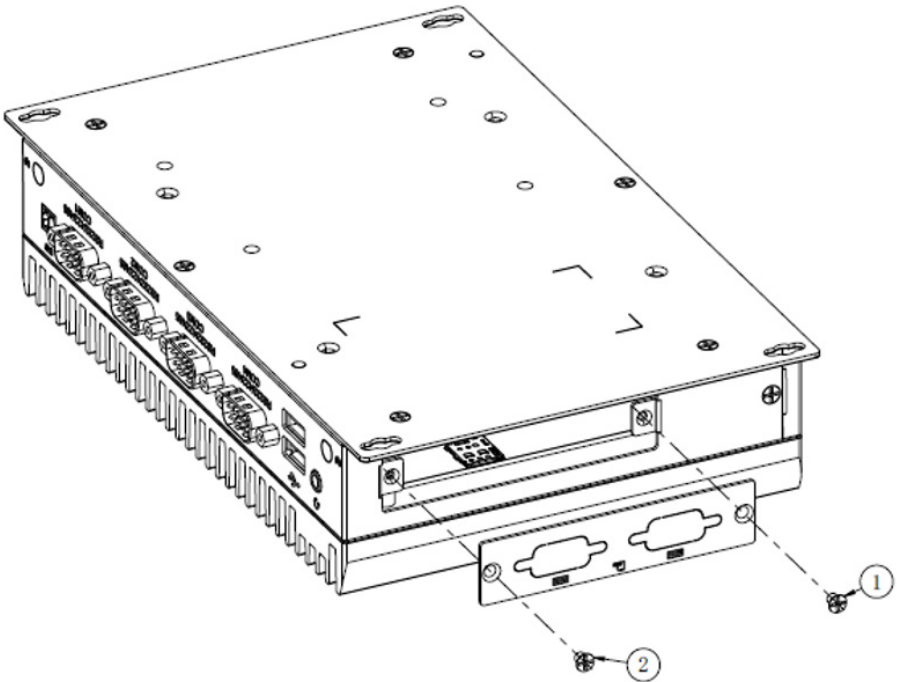

Figure 3.4-1 Install and Remove SIM card
2. Push/remove the SIM card into the card slot and lock the cover back, as shown in Figure 3.4-1.